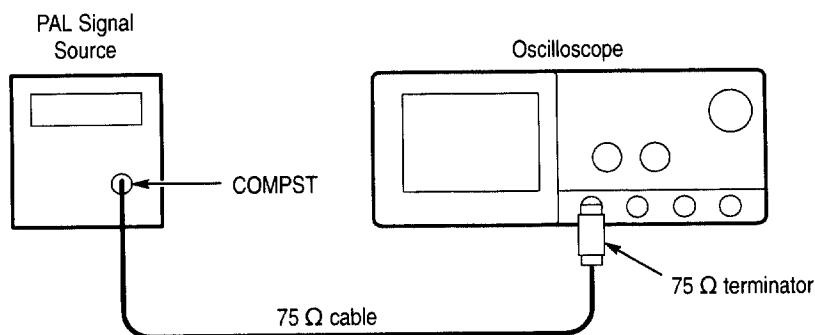

Figure 1–27: Jitter test hookup
- a. Set up equipment for Jitter Test. See Figure 1–27.
- b. CHECK that the oscilloscope lights up its front panel **TRIG'D** LED and it displays the waveform on screen. See Figure 1–28.